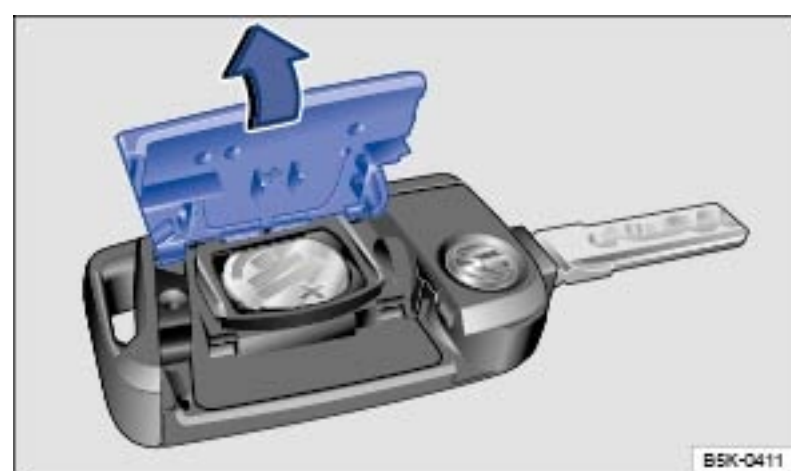

Fig. 24 Remote control vehicle key: Open battery compartment cover.
cover → Fig. 24.
- › Remove the cover on the back of the remote control vehicle key in the direction of the arrow → Fig. 24 using a suitable object such as a coin →!.
- › Position the cover as shown → Fig. 24 and press it down (opposite direction of the arrow) until you hear it click into place.